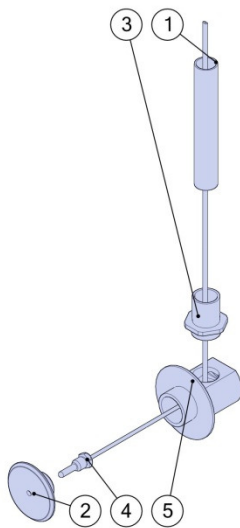

fig. 2
- If the ProSteam steam generator is not in the adjacent room; make a pipe in the wall for the cable. (fig. 2). Install the wall insert as described below.